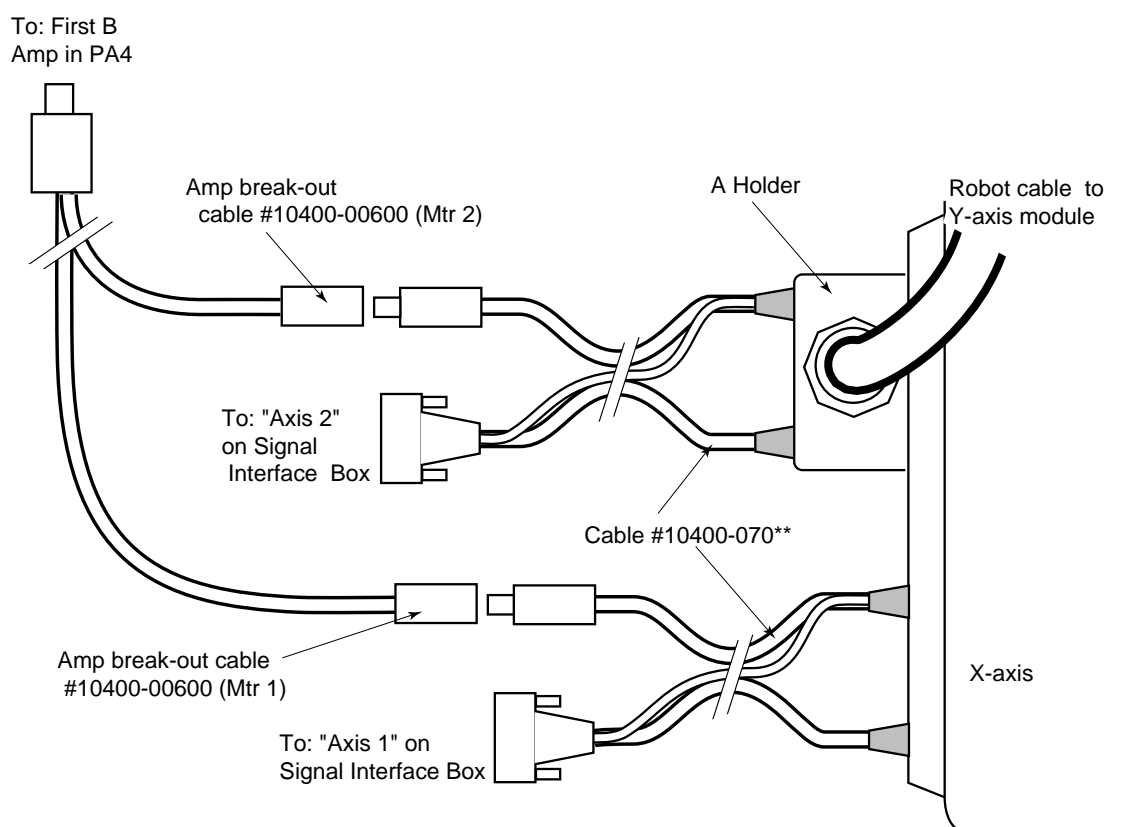

Figure 4-61. Connecting to an Adept MV Controller
- a. Connect the two barrel ends of the cable to the X-axis module as shown in Figure 4-61. These connectors have different pin sizes and cannot be installed incorrectly.
- c. Attach the A holder end of the robot cable to the side of the X-axis module as shown in Figure 4-61 (refer to Section 4.3 for holder rotation and mounting).
- e. Connect the two barrel ends of the cable to the A holder as shown in Figure 4-61. These connectors have different pin sizes and cannot be installed incorrectly.